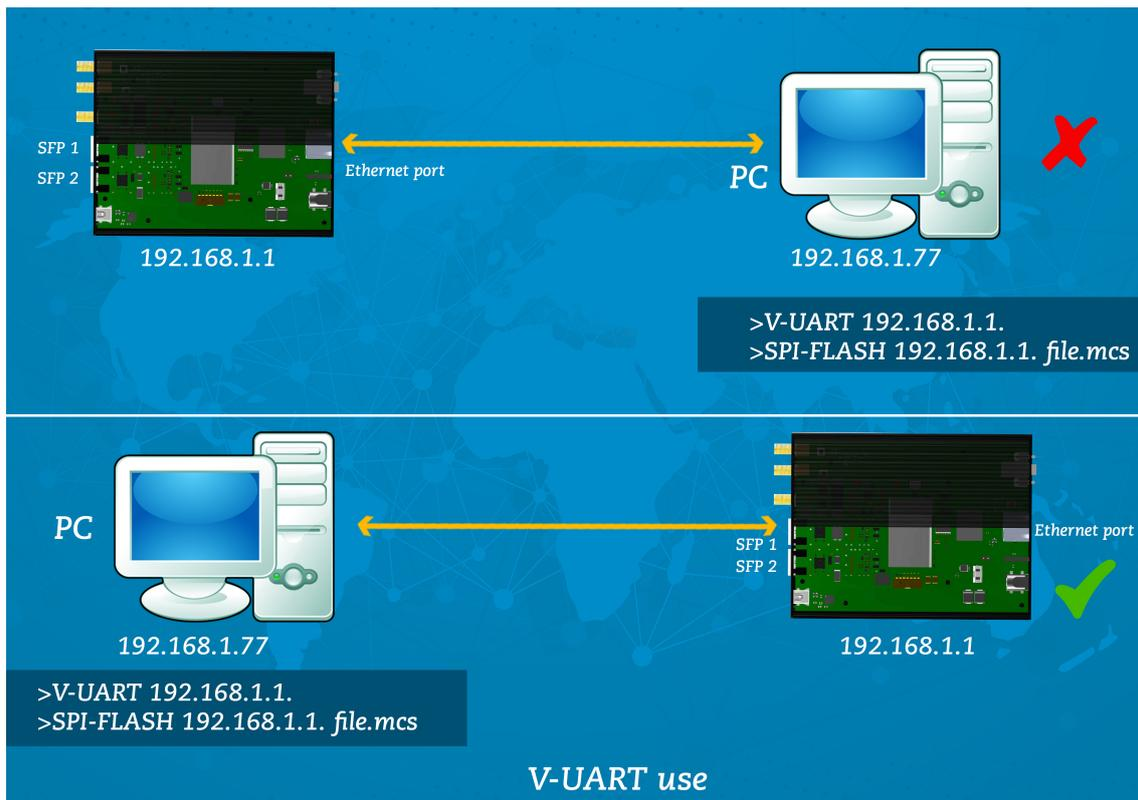

Figure 10: EB and V-UART connection.
2) The **V-UART** module is only reachable from the **SFP** ports. The remote connection by the v-uart was explained at subsection 3.1. The user must know that the v-uart connection must take place through the SFP ports. The Figure 10 shows how the devices must be connected in case that the user wants to open a v-uart connection or remotely flash the node.